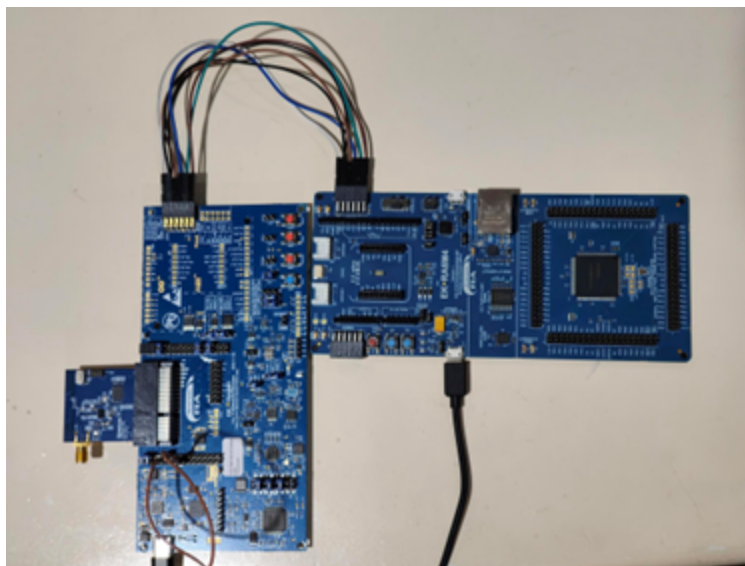

Figure 14. PMOD connection between RA6M4 and RA6W1 through J219
1. Connect the PMOD connector of the RA6W1 to the PMOD2 port of the RA6M4 host (Figure 14) for this program to work.